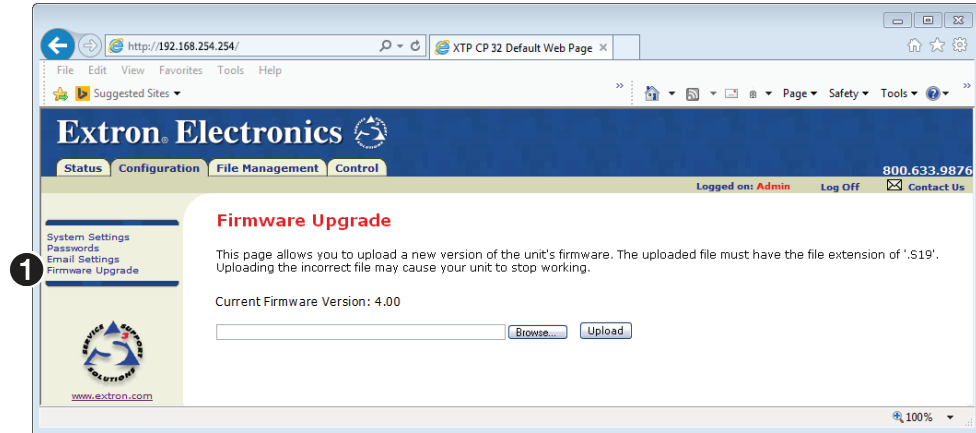

Figure 33. Firmware Upgrade Page
Access the Firmware Upgrade page by clicking the **Firmware Upgrade** link (see figure 33, ①) on the left of the System Settings, Passwords, or Email Settings page.